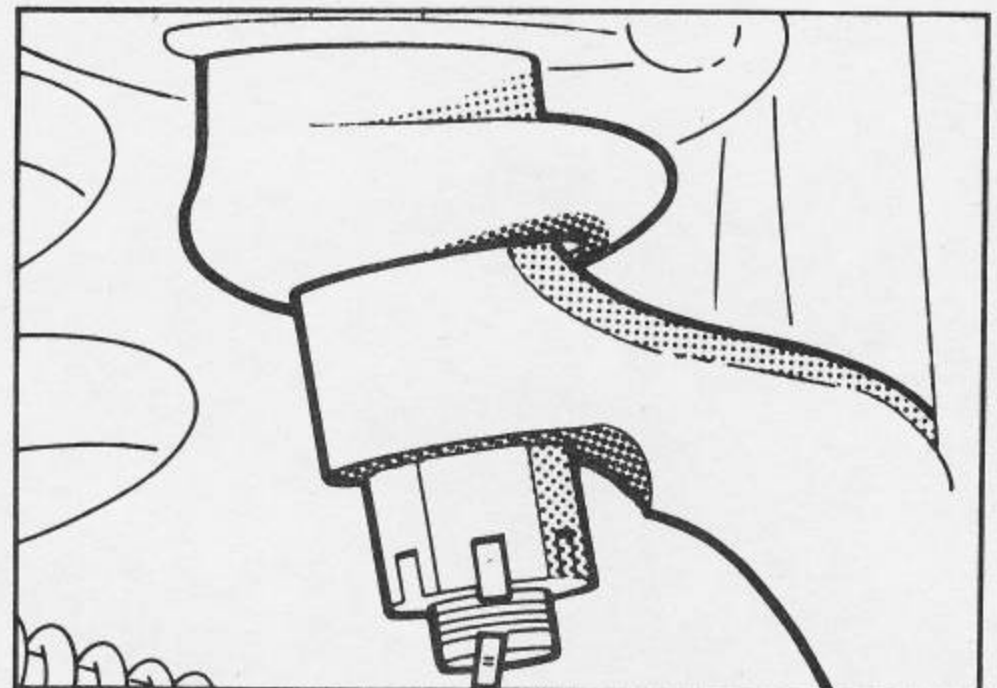

Fig.41 Remove stub axle securing nut.
6. Having taken the weight off the suspension remove split pin and loosen nut securing stub axle to upper arm and remove nut. Fig.41